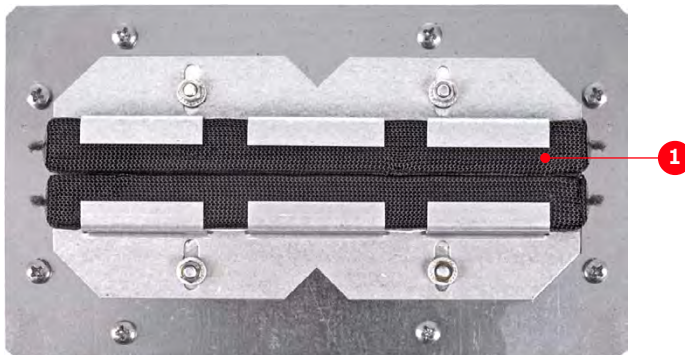

Figure 7-2: EMC cushion
(1) EMC sleeves
(2) Sealing grommets
- EMC cushions (1 Fig. 7-2) on the underside of the EMC plate if the cable entry is used for control cables.